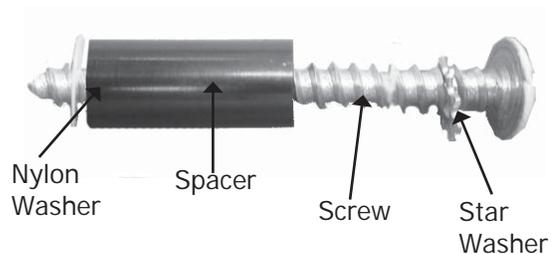

Figure 3 - Screw And Washer Through Panel
4. Place screws and star washers through top of return air panel. Place spacers and nylon washers, through bottom of return air panel onto just placed screws and washers securing spacer. See **figures 3 and 4**.